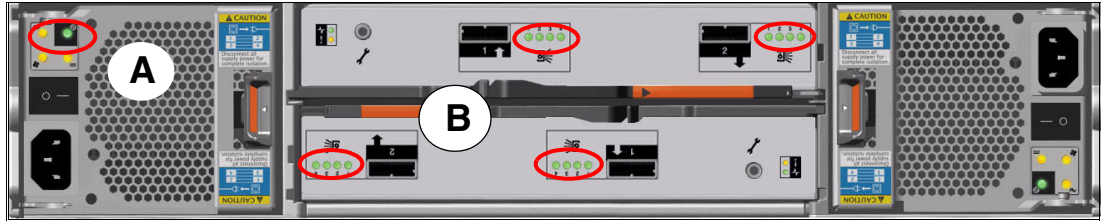

Figure 2-9 Component side view Expansion enclosure
Figure 2-9 shows the components of the expansion enclosure.
The expansion enclosure power supplies have a single power lead connector on the power supply unit. The PSU has an IEC C14 socket and the mains connection cable has a C13 plug. As shown in Figure 2-9, the PSU has one green status LED indicator (A) to show it is powered on and working properly.
Each port connects four SAS physical links (PHYs) to the drives. As shown in Figure 2-9, there is an LED associated with each PHY in each port (eight LEDs in total per canister). The LEDs are green and grouped together next to the ports (B); for each port they are numbered 1 through 4. These LEDs indicate when there is activity on the PHY.